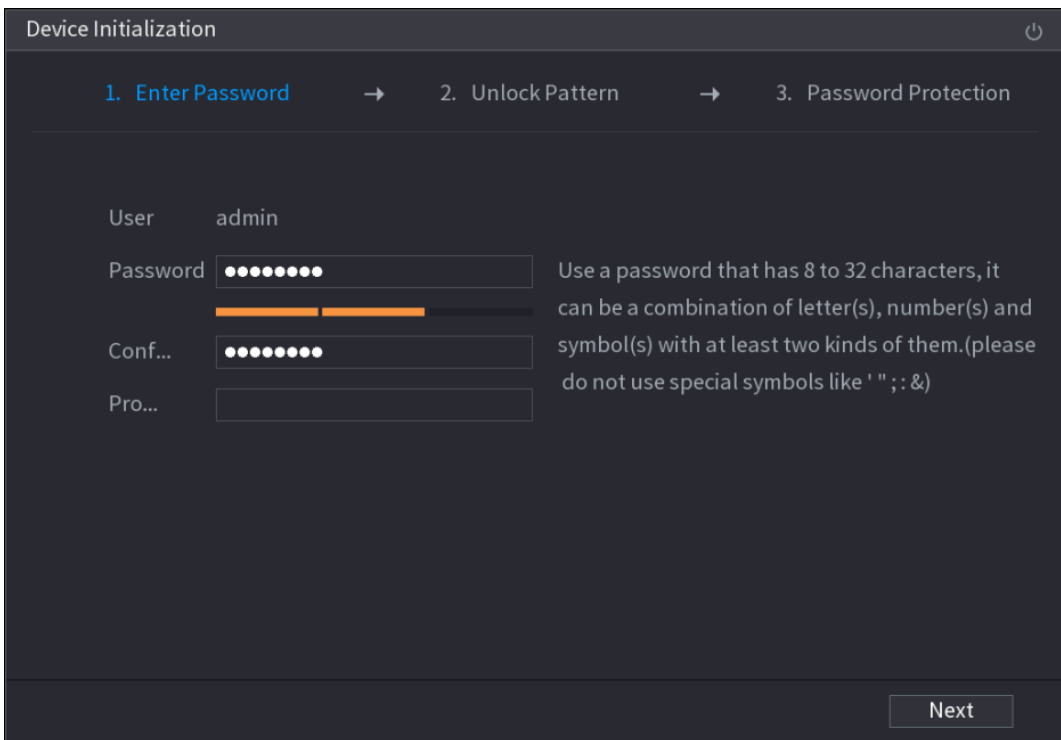

Figure 5-4
Step 5 Select system zone, configure system time, and then click **Next**. The **Enter Password** interface is displayed. See Figure 5-4.